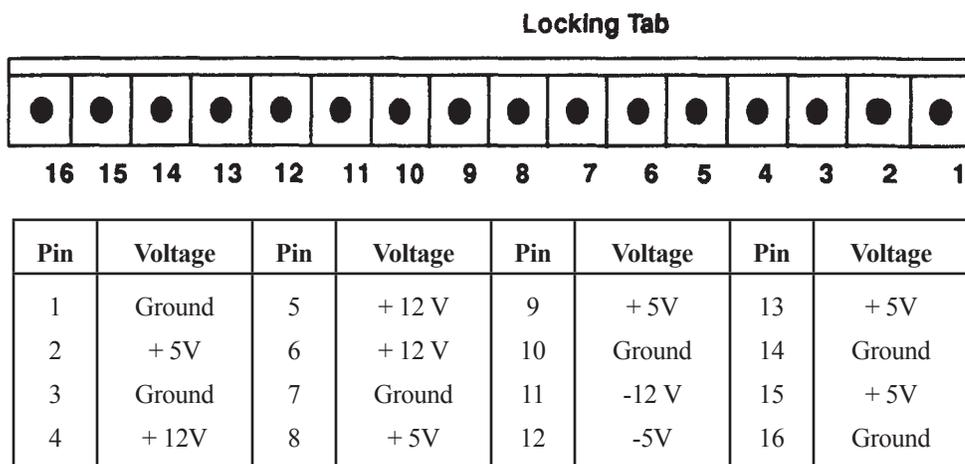

Figure 4-24. Model 400s System Unit ISA Backplane Power Cable Connector
- A. If the system unit has an ISA backplane, remove the right side and RFI covers. Check the voltages on the ISA power distribution cable on the ISA backplane as listed in Figure 4-24. If the voltages are present, replace the CPU board. If the voltages are not present, go on to step B.
Figure 4-24 shows the voltages of the ISA backplane power cable connector.